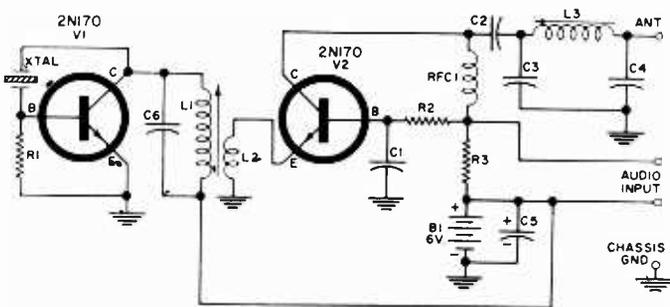

Fig. 1. Two-stage transmitter circuit utilizes two 2N170 transistors.
**Circuit Design.** Each transmitter is a two-stage, crystal-controlled, 670-kc., 400-microwatt unit (See Fig. 1.) Har-